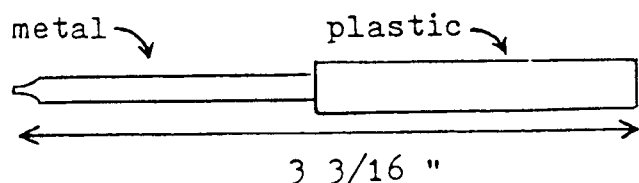

FIGURE 3
(4) Warm Up Turn on the R-390A and let it warm up for at least an hour. I do not normally use my crystal ovens, but if you do, remember to turn them on with the switch on the rear panel. In some cases, an hour may not be enough warm up time for an R-390A to stabilize. One of my R-390A's seems to require 2 - 3 hours for stabilization. If in doubt, wait longer than the recommended one hour minimum.
(5) 100 KHZ Calibrator Alignment Tune in WWV on one of its frequencies. Turn on BFO and adjust BFO PITCH to zero beat with WWV. Turn FUNCTION switch to CAL. A het with your 100 khz calibrator should be heard. With a small screw driver or metal blade alignment tool, adjust C 310 through the access hole in the rear panel for zero beat. Do not change BFO PITCH setting from the above setting.
(6) End Point Adjustment With FUNCTION switch set to CAL and BFO on (and at the same BFO PITCH position as in step (5)), set KILOCYCLE dial to +000 (a het of the BFO with the 100 khz calibrator should be heard), tighten the ZERO ADJ. knob, zero beat by turning the KILOCYCLE CHANGE knob, and release the ZERO ADJ. knob. Set the KILOCYCLE dial to 000 (the low end of the 1000 khz range). Again a het of the BFO with calibrator should be heard. Now comes the tricky part. Cut a plastic handled metal blade tipped alignment tool (Radio Shack 64-2223 or equivalent) to 3 3/16 inches long, see Fig. 3 below. The maintenance manual recommends using a non-metallic